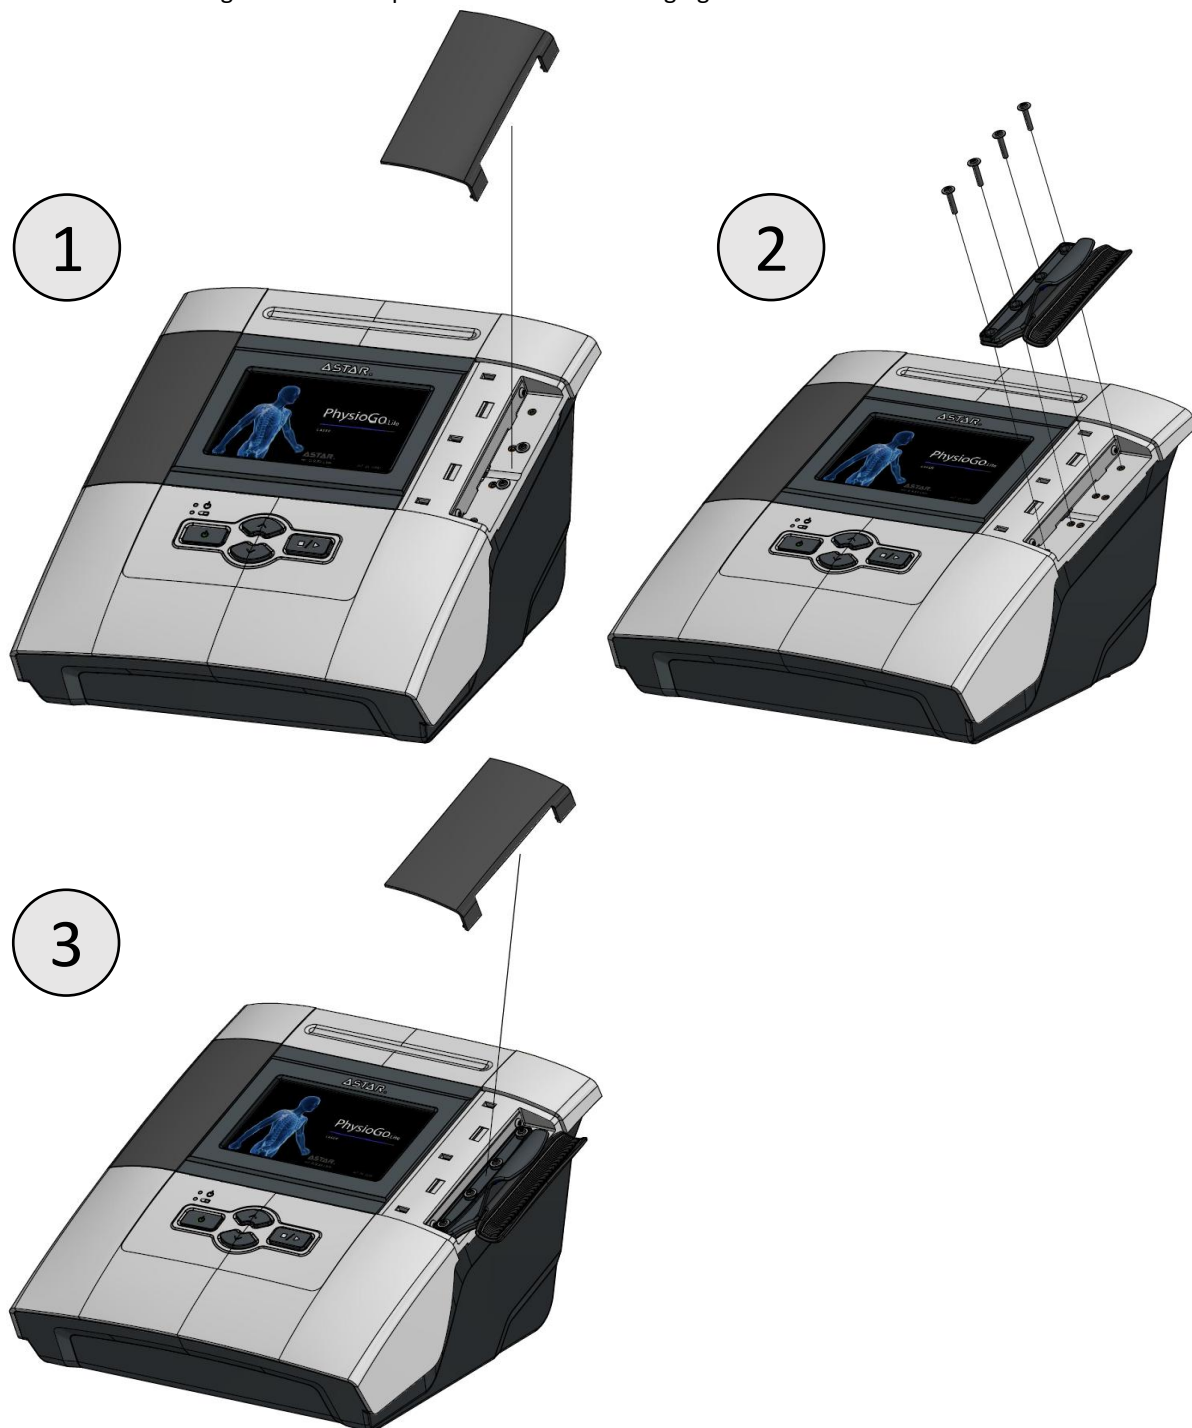
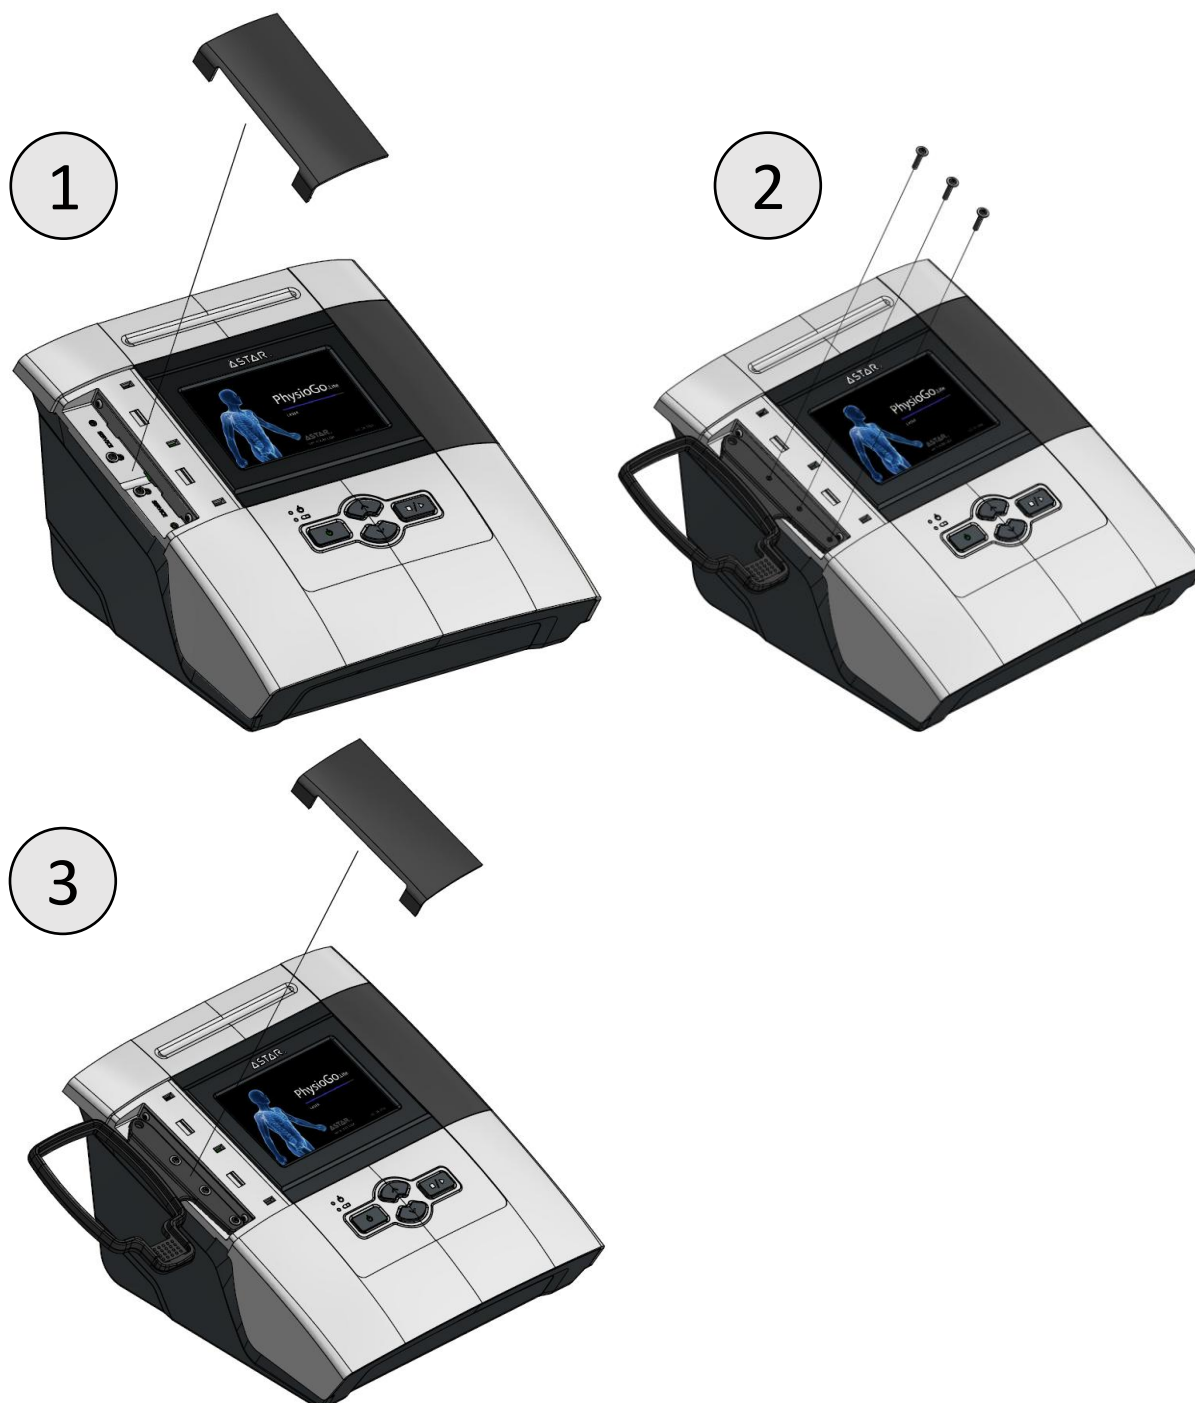

Figure 6-1 Method of mounting the point applicator holder
Figure 6-2 Method of mounting the cluster applicator holder
2.	Adjust the holders and screw bolts in according to Figure 6-1 and Figure 6-2.